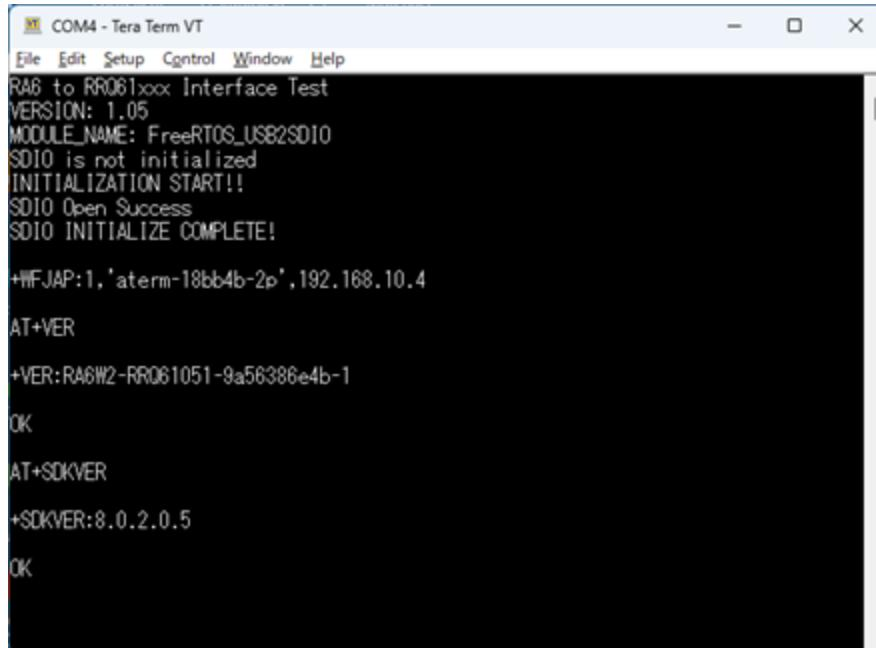

Figure 33. RA6M4 USB console
Figure 33 shows sending AT+VER and AT+SDKVER command from RA6M4:
- If there is response which shown in Figure 33, EK-RA6M4 and RA6W1 can accept AT command.